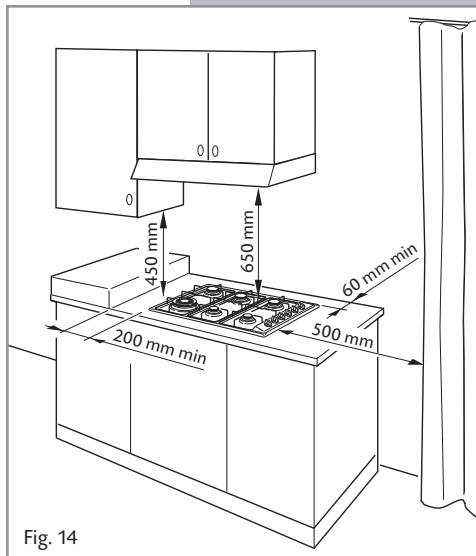

Fig. 14
- there must be a distance of at least 650 mm between the hob and any wall cupboard or extractor hood positioned immediately above (see fig. 14).